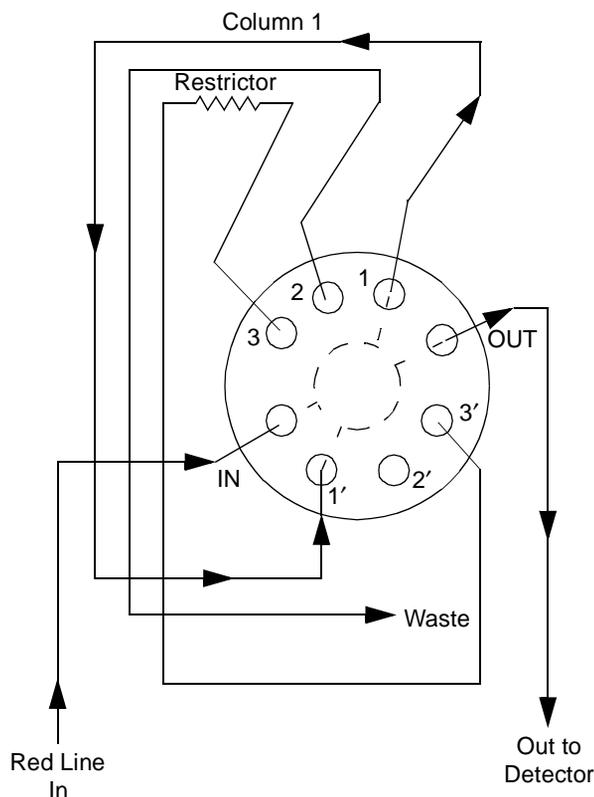

Figure 2-8 Three-Column Selection Valve Configuration (As Shipped)
The 3-column selection valve (Figure 2-8) is an eight-port, three-position valve preconfigured at the factory as follows:
**Note:** Any of the six column positions can be used for a restrictor or for waste as in the three-column selection valve (see the example in Figure 2-8).